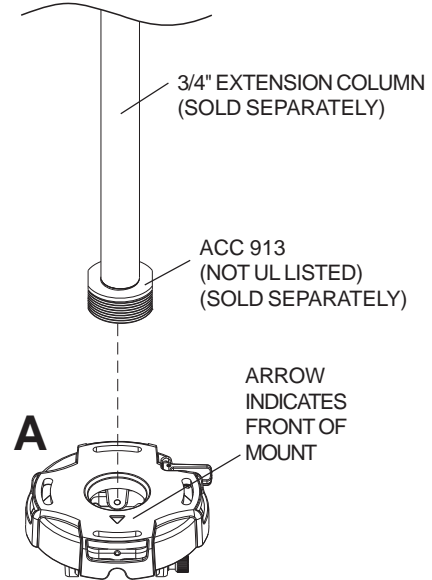

fig. 5.2
NOTE: For 3/4" extension columns, reducer ACC 913 will be required as shown in **figure 5.2**. Tighten swivel stop screw against extension column, flush mount tube or reducer using 4 mm security allen wrench (B) as shown in **figure 5.3**.